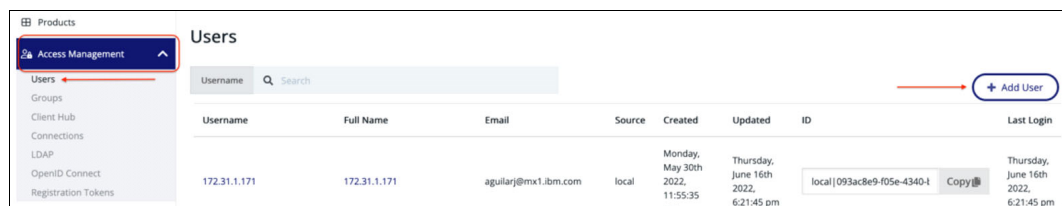

Figure J-30 Users
1. Go to **Access Management** (Figure J-30).